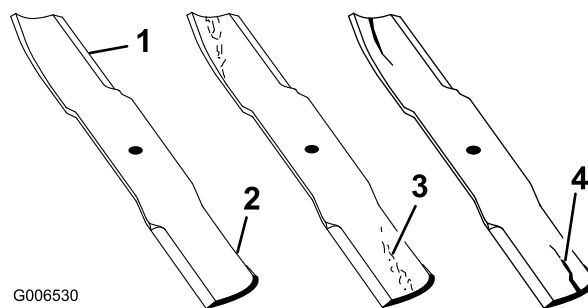

Figure 40
1. Inspect the cutting edges (Figure 40). If the edges are not sharp or have nicks, remove and sharpen the blades; refer to Sharpening the Blades.
2. Inspect the blades, especially the curved area (Figure 40). If you notice any damage, wear, or a slot forming in this area (item 3 in Figure 40), immediately install a new blade.